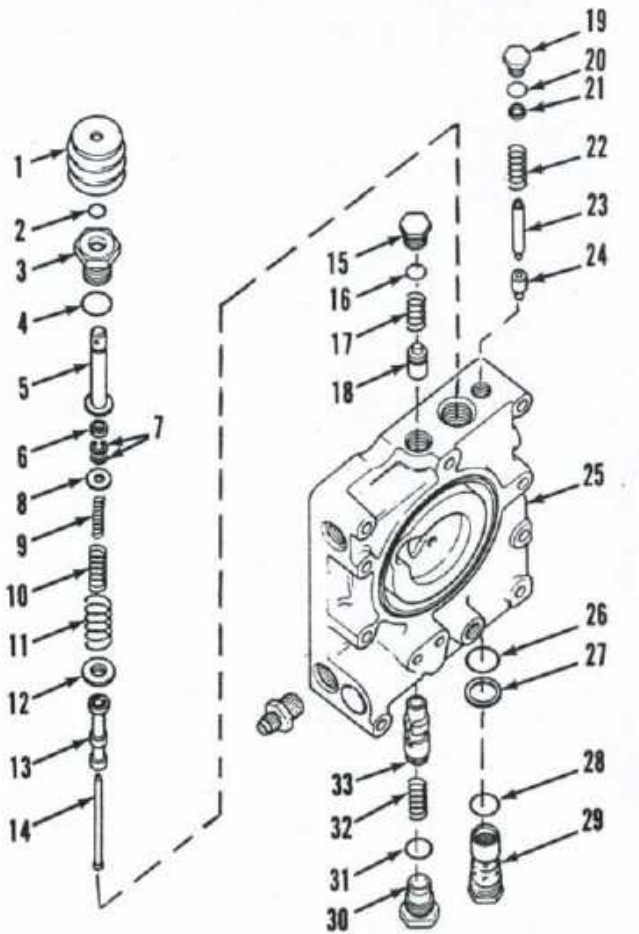

Fig. 155—Exploded view of multiple control valve assembly.
**130. RELIEF VALVE AND FLOW DIVIDER.** To check the pilot relief valve (29—Fig. 155) and flow divider (33), first remove plug (30), then remove spring (32) and spool (33). Reinstall plug (30). Remove pilot relief valve (29) and install a test pilot relief valve from test kit No. 399858R92. Disconnect the